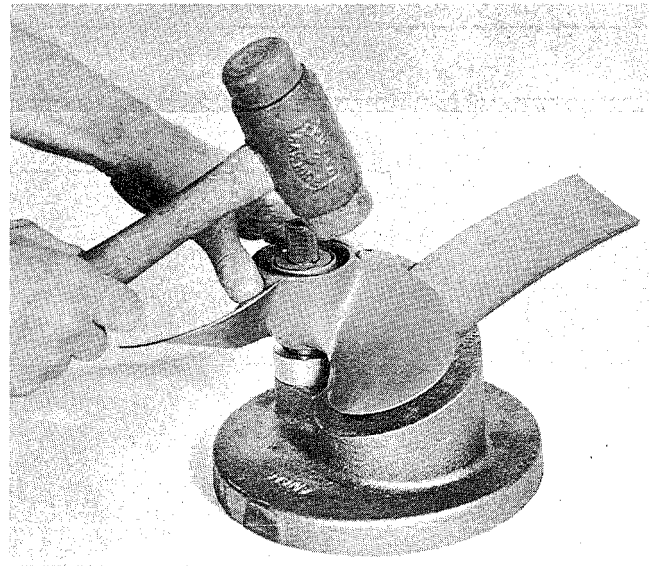

Figure 3.
3. In event the blade cannot be "flattened" by this procedure—place a leather pad (about 3 inches wide and 1/8 inch thick) under low area as shown Fig. 3. Strike high blade area carefully with mallet to drive against pitch face.